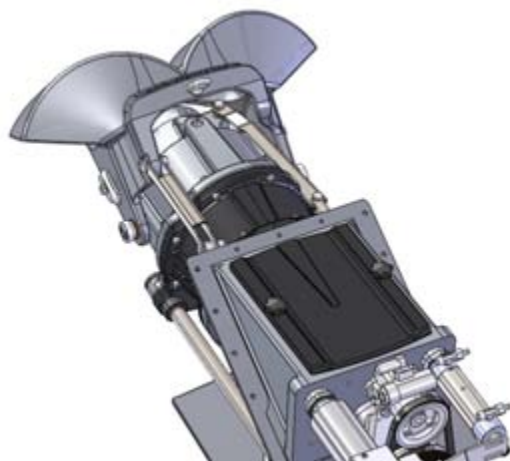

Figure 37. Inspection hatch
1. Open the inspection hatch (figure 37).